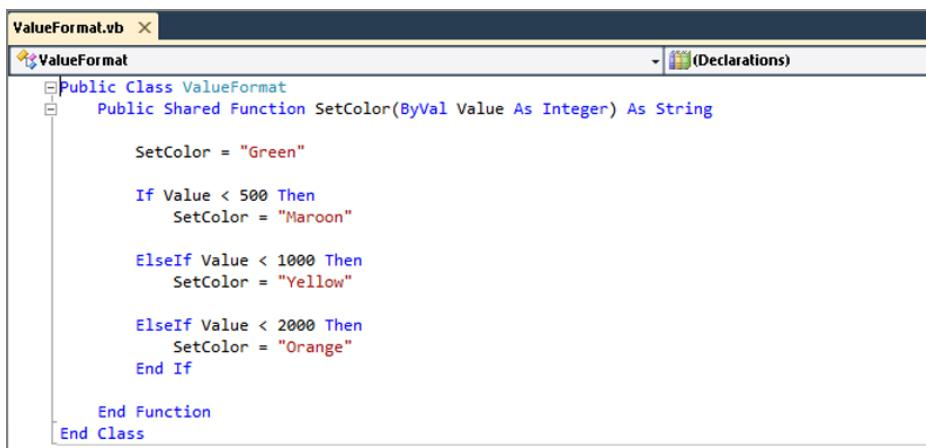

Figure 8-9
- Once the project is created, rename the `Class1.vb` file in the Solution Explorer to `ValueFormat.vb`. Open the `ValueFormat.vb` file if it is not already open. Use the same code from the previous example and place it between the existing code, as shown in Figure 8-9: